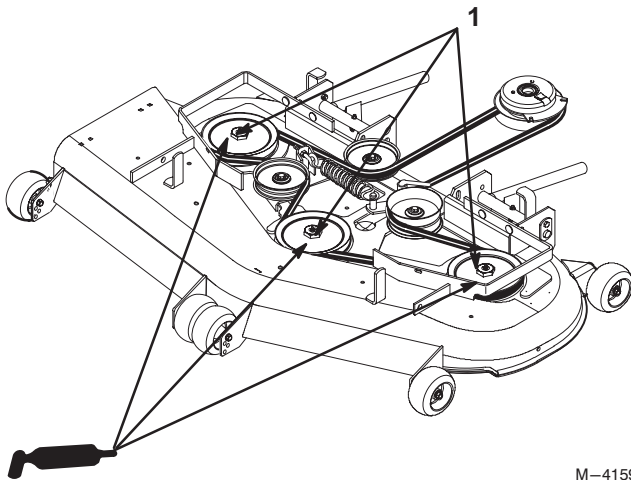

Figure 10
- Grease the fittings on the three spindle bearings. Grease until it comes out lower seals (Fig. 10).